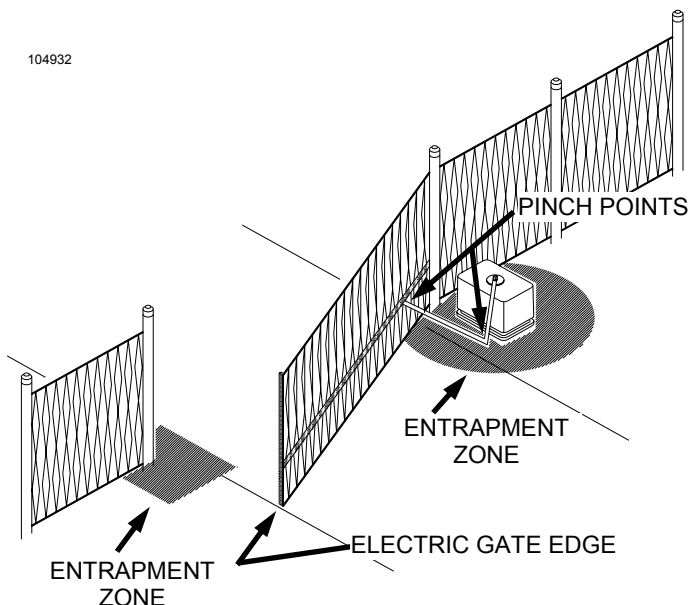

Figure 3
- Use the illustration at left (Figure 3) to minimize the risk of injury in your design of the swing gate operator system. **IDENTIFY THE ENTRAPMENT ZONES AND PINCH POINT AREAS IN YOUR GATE.** Design the gate installation to minimize the risk of entrapment in these areas. Install additional safety equipment such as four wire edges and photocells to further minimize risk. All entrapment zones are required to be protected.
- **Entrapment Zones:** Design in personal entrapment protection devices to protect people from entrapment in the zones shown in Figure 3 at left.
- **Pinch Points:** Use protective measures (guards, padded edges, etc.) to protect people from the pinch points shown in Figure 3 at left.
- SWING GATES HAVE THE POTENTIAL HAZARD OF HANDS AND FINGERS BEING PINCHED between the gate edge and the post to which the gate is mounted. It is recommended that the hinges be mounted so that this opening increases as the gate swings open. **PROTECT THIS "PINCH POINT" SO THIS HAZARD IS AVERTED.** See Figure 3.
- CONSIDER ALL OTHER "PINCH POINTS" IN YOUR DESIGN of the gate system. Observe the arm as it opens and the two arm pieces swing past each other. Use protective measures to reduce hazards at this location. Restrict access to the arm motion. See Figure 3.